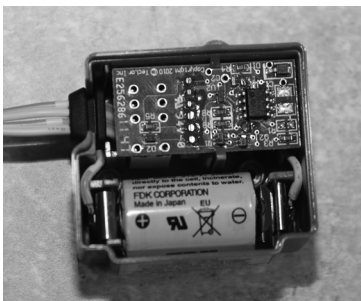

Fig 13
2. Separate the top from the base of the control box. Remove the 1/2 AA battery and replace with a new battery of identical type, making sure that battery polarity is correct (fig 13).